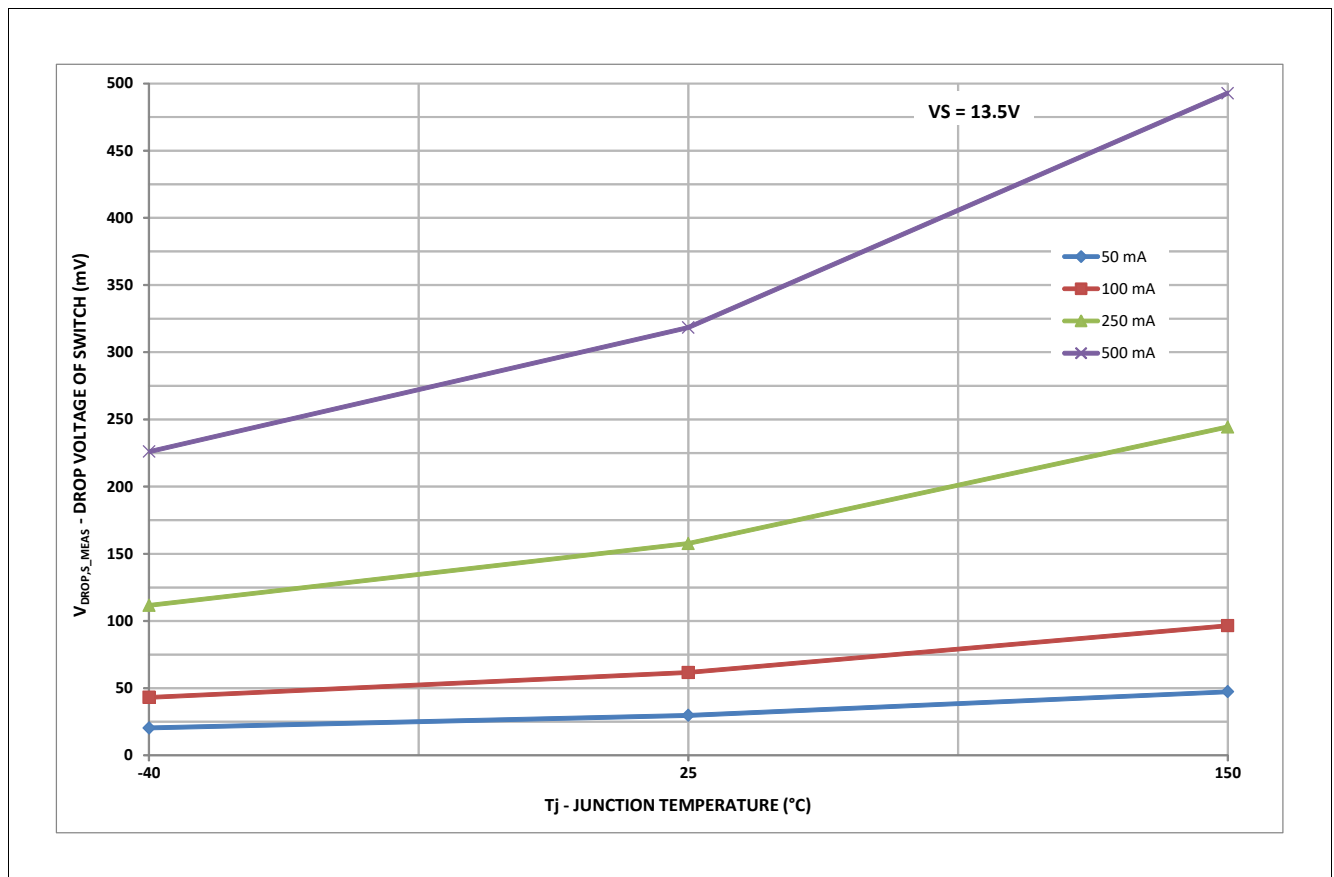

Figure 13 Typical Drop Voltage Characteristics of switch S_MEAS (between $WK/VSENSE$ & $FO/GPIO$)
*Note: There is a diode in series to the switch S_MEAS (not shown in the **Figure 52**), which influences the temperature behavior of the switch. See also **Figure 13**.*